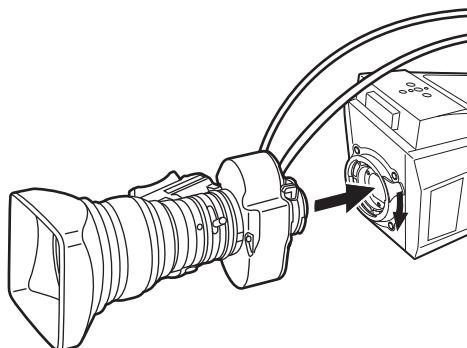

Fig. 1
- 2** Mount the lens, lower the lens fixing lever, and securely fix the lens. (Fig. 1)